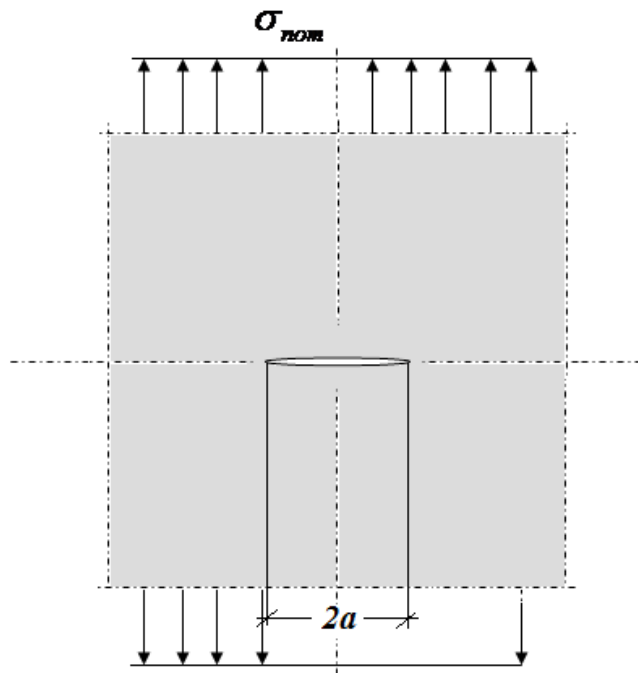

Figure Q5
An aircraft structural component in the form of an aluminium panel as shown in Figure Q5 is subjected to an external load that gives a nominal tensile stress of a half of the yield point. The yield stress and the fracture toughness of the material are 360 MPa and 40 MPa m^{1/2} respectively.
- (c) Determine the maximum size of crack or flaw that may exist in the panel shown in Figure Q5 without affecting unstable crack propagation assuming linear elastic material and that:
- (d) It is found during the inspection that there is a crack contained in the panel shown in Figure Q5 with the size $a = 1$ mm. If the external load is fluctuated such that the maximum nominal stress is half of the yield point and the minimum is compressive of 30 MPa, estimate the life cycle of the structure. [8 marks]